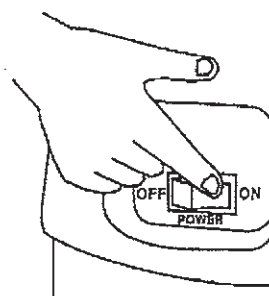

Fig.3-3 Main Switch
- Turn on the main switch located on the rear pump cover. A lamp illuminates in the main switch. (Fig.3-3)